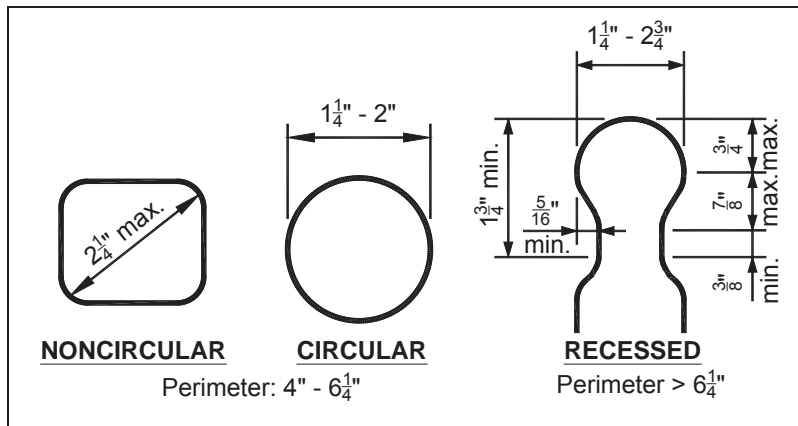

FIGURE 37: HANDRAIL GRASPABILITY TYPES/GEOMETRY
- Handrails shall be graspable per FIGURE 37.